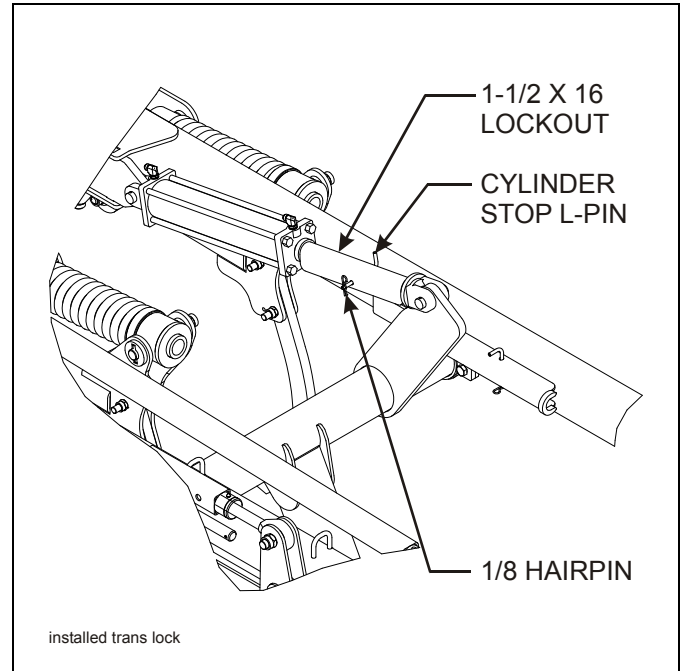

Figure 4-14: Installed Transport Locks
7. Install transport locks on both lift cylinders. Do not depend solely on implement hydraulics for transport. (See Figure 4-14.)